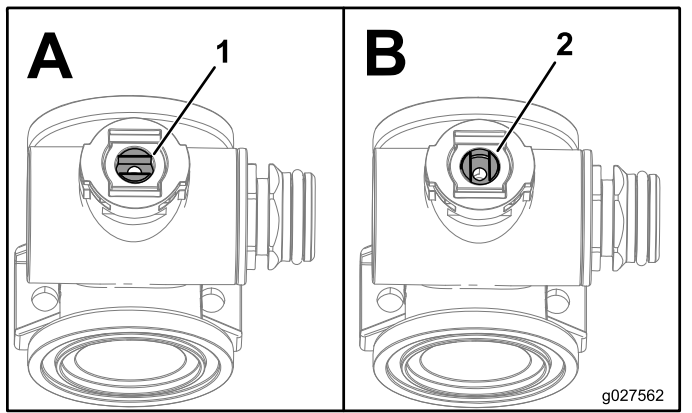

**Figure 77**
2. Remove the 2 end-cap-fitting assemblies from each end of the manifold body (Figure 77 and Figure 78).
- Remove the stem retainer from the slots in the stem port in the manifold (Figure 77 and Figure 78).
- Remove the stem retainer and valve stem seat from the manifold (Figure 77 and Figure 78).
- Reach into the manifold body and remove the valve-stem assembly (Figure 77 and Figure 78).
- Check the condition of the outlet fitting O-rings (section valve manifold only), end cap O-rings, back seating O-rings, and ball seat for damage or wear (Figure 77 and Figure 78).
- Apply silicone grease to the valve stem and insert it into the valve stem seat (Figure 77 and Figure 78).
- Install the valve stem and seat into the manifold and secure the stem and seat with the stem retainer (Figure 77 and Figure 78).
- Ensure that the back seating O-ring and the ball seat are aligned and seated into the end-cap fitting (Figure 77 and Figure 78)
- Install the end-cap fitting assembly onto the manifold body until the flange of the end-cap fitting touches the manifold body (Figure 77 and Figure 78), then turn the end-cap fitting an additional 1/8 to 1/4 turn.